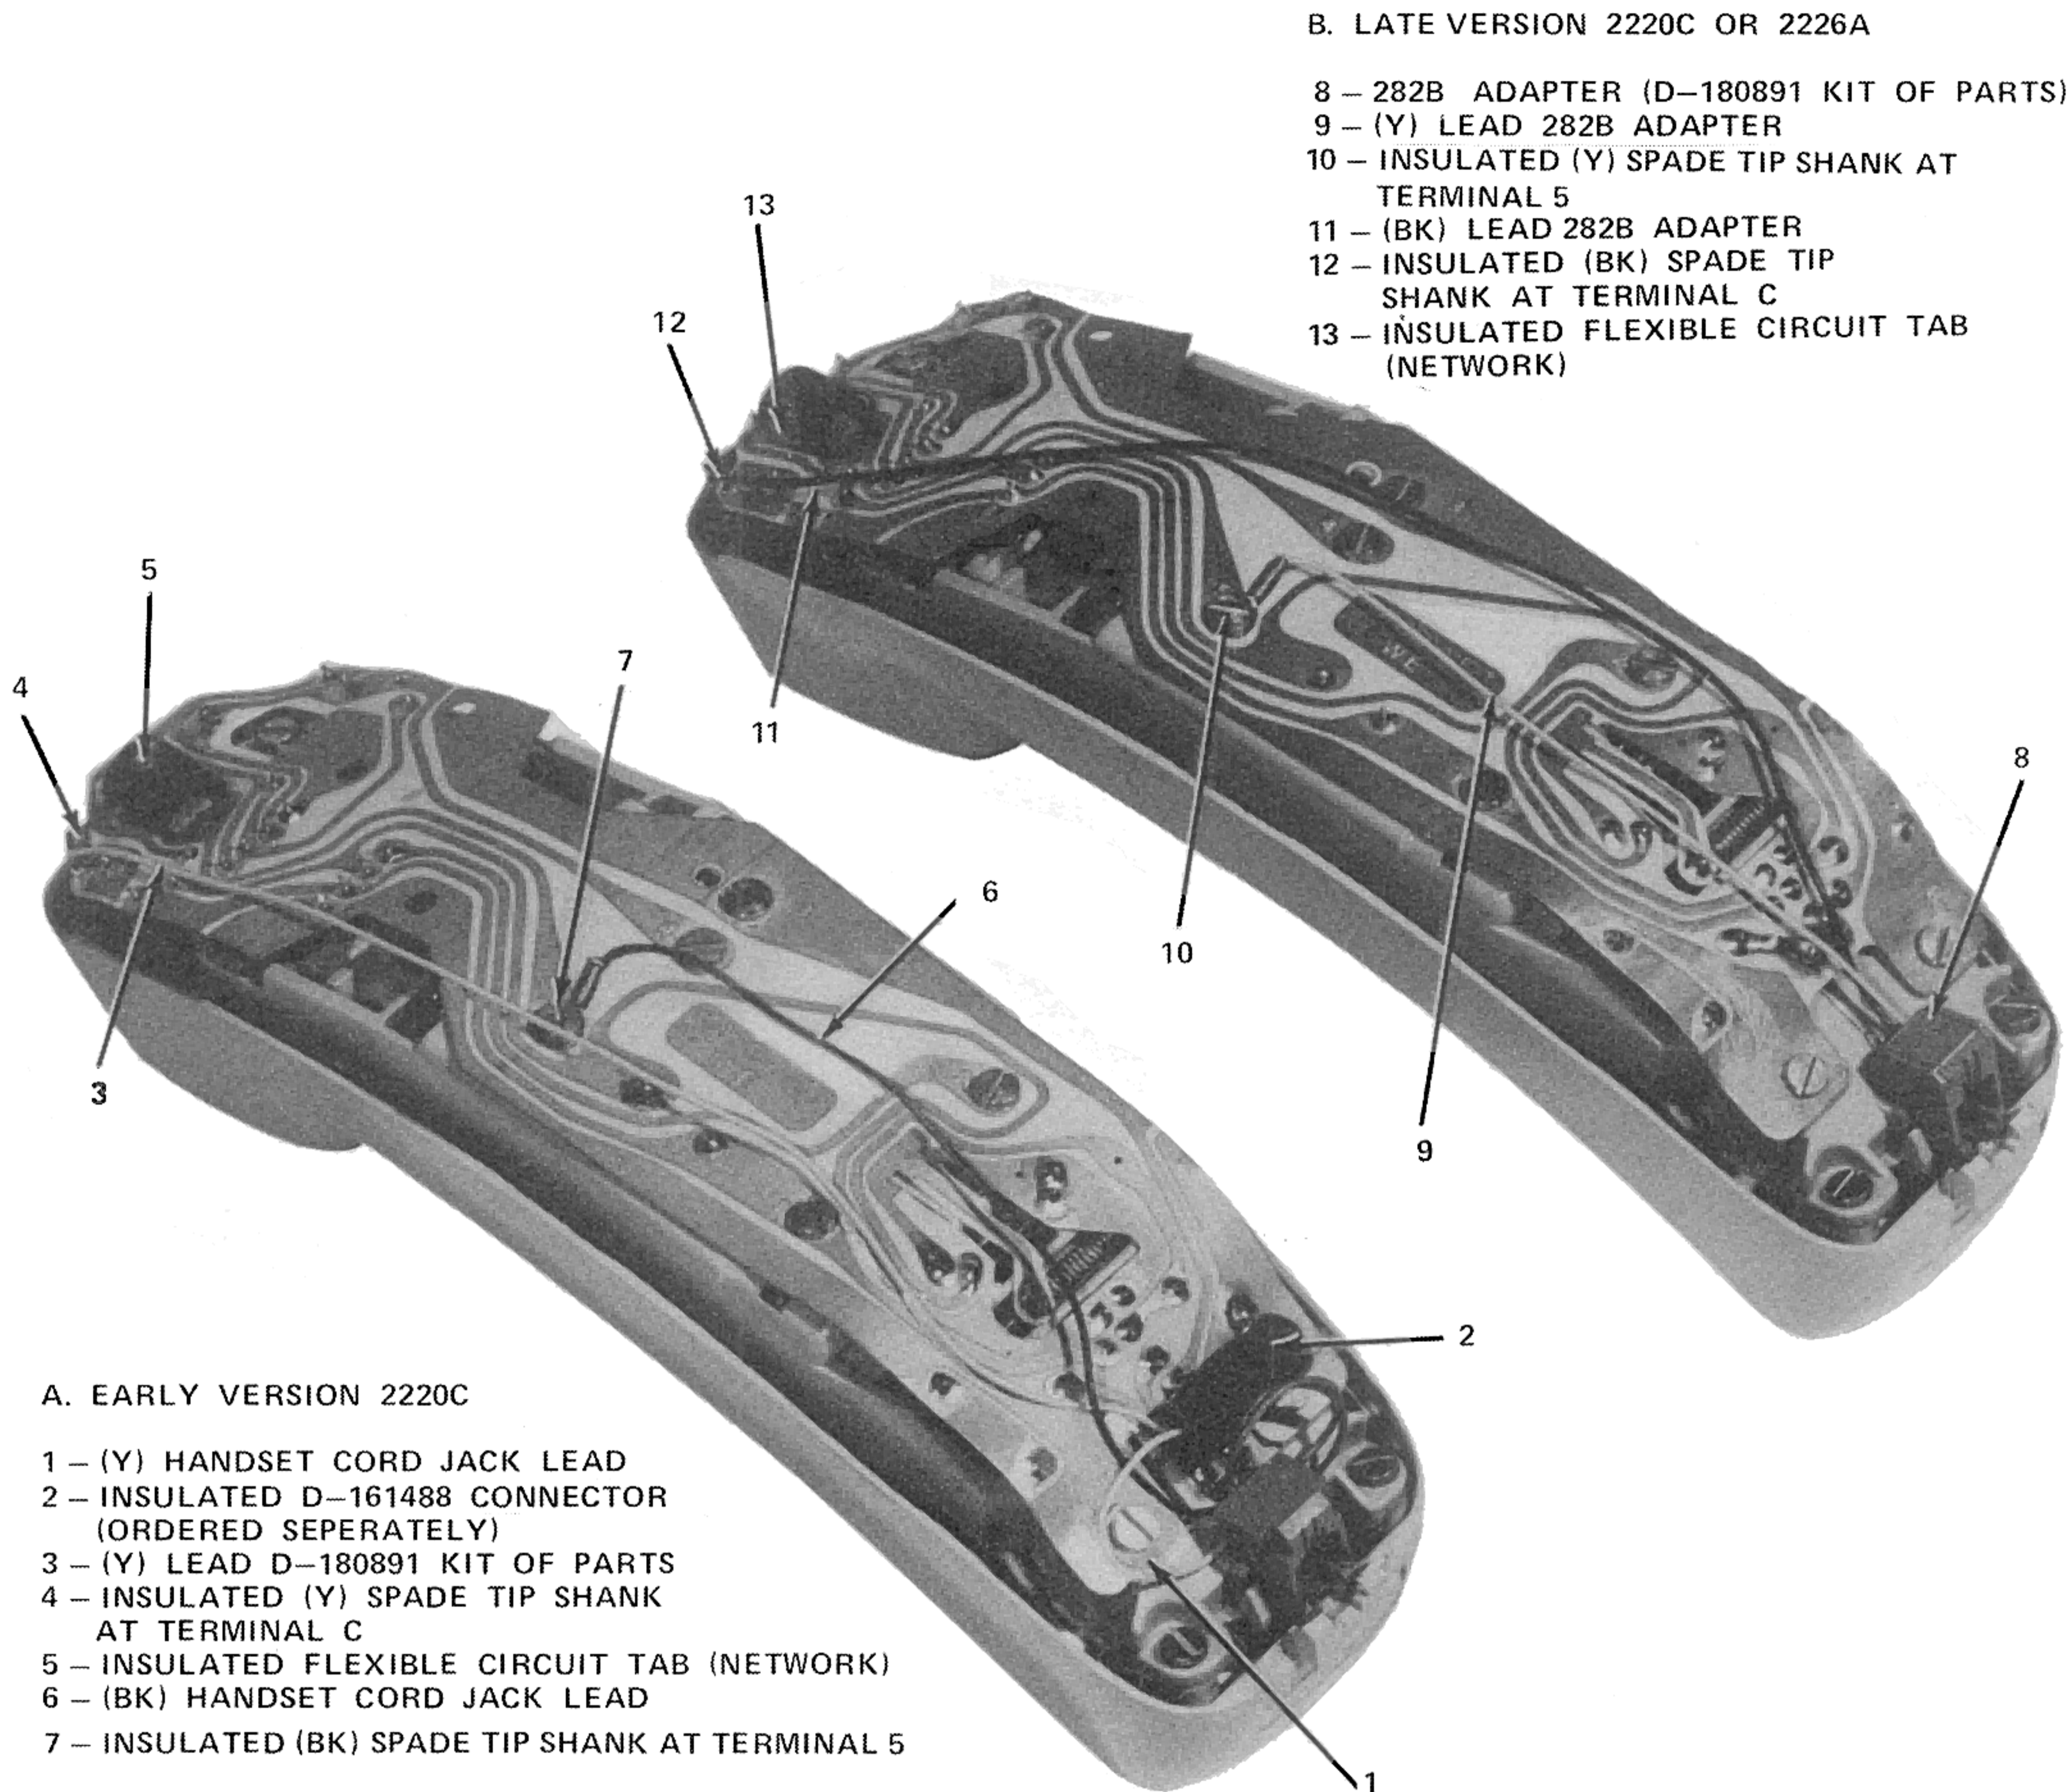

Fig. 10—2220C or 2226A Hand Telephone Set Modified for RFI
B. D-180891 Kit of Parts (2220C and 2226A only) RFI Modification (Fig. 10)